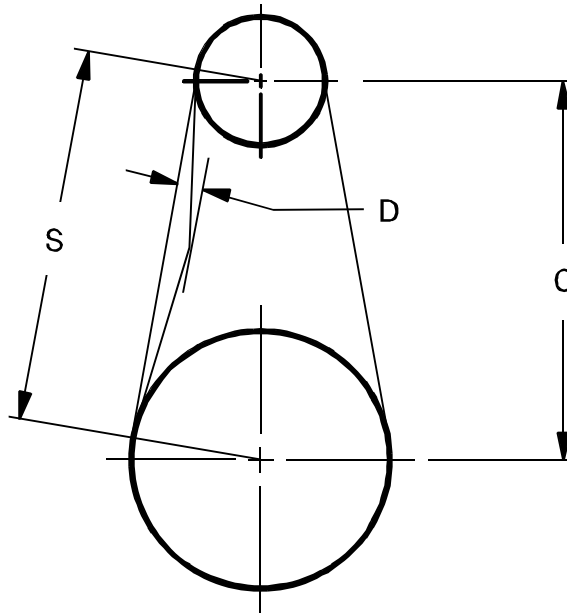

Figure 13: Belt Tensioning
5. Stop the drive and tension the belts to the maximum deflection force recommended, *Table 6, page 23 and Table 8, page 24*. Measure the deflection value using a tensiometer or equivalent spring scale. Apply a perpendicular force to any one belt at the mid point of the span, *Figure 13*.